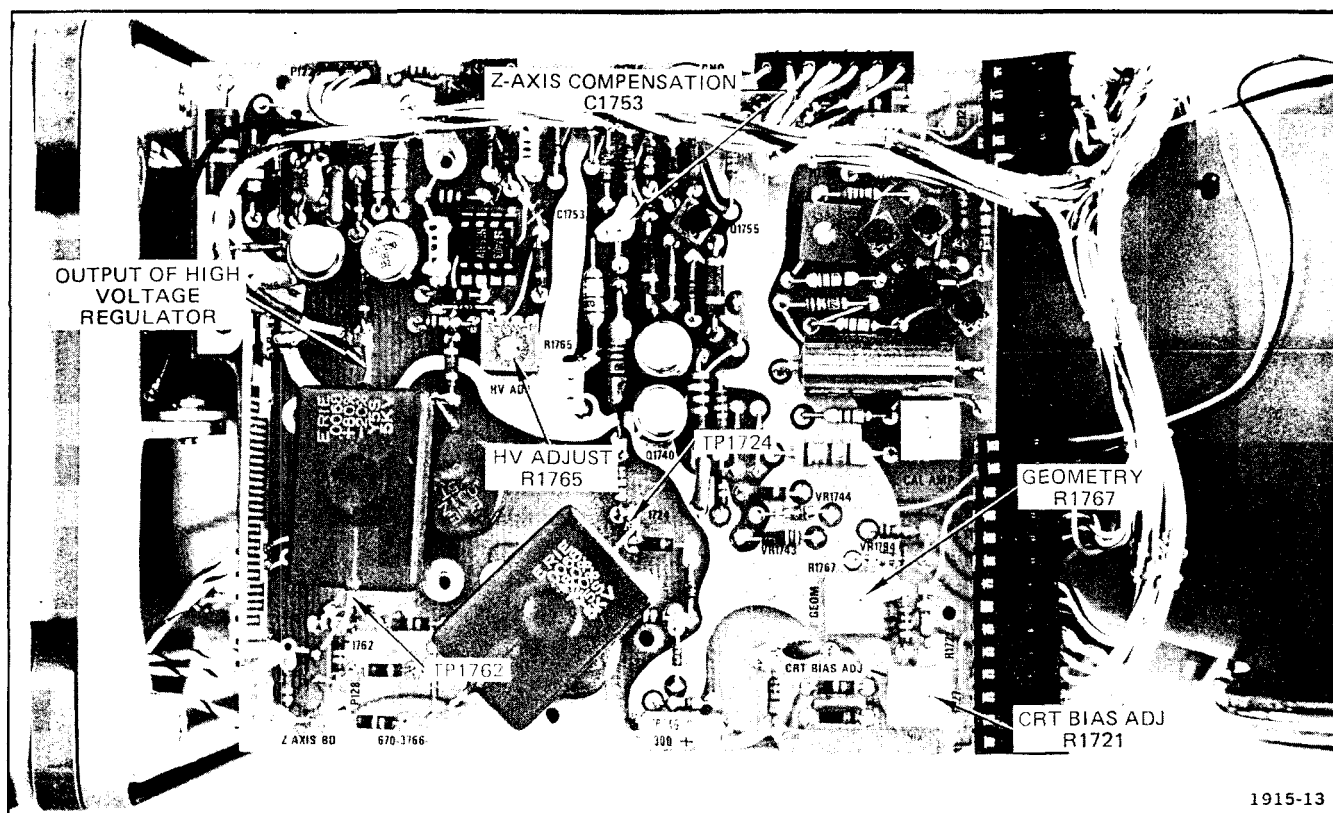

Fig. 5-2. CRT circuit test point and adjustment locations.
a. Connect the DC Voltmeter between the  $-3940$ -volt test point TP1762 (see Fig. 5-2) and ground.
c. ADJUST—High-Voltage Adjust R1765 (see Fig. 5-2) for a meter reading of  $-3940$  volts.
d. Connect the Precision DC Voltmeter to the output of the High-Voltage Regulator (see Fig. 5-2).
a. Set the DC voltmeter to a 25-volt or higher DC range and attach the plus lead to test point TP1724 on the Z-axis circuit board (see Fig. 5-2) and the minus lead to ground.
f. ADJUST—CRT Grid Bias adjustment R1721 (see Fig. 5-2) so the spot on the CRT just disappears.
m. ADJUST—C1753 (see Fig. 5-2) for a very slight bright spot at the beginning of the magnified sweep display.